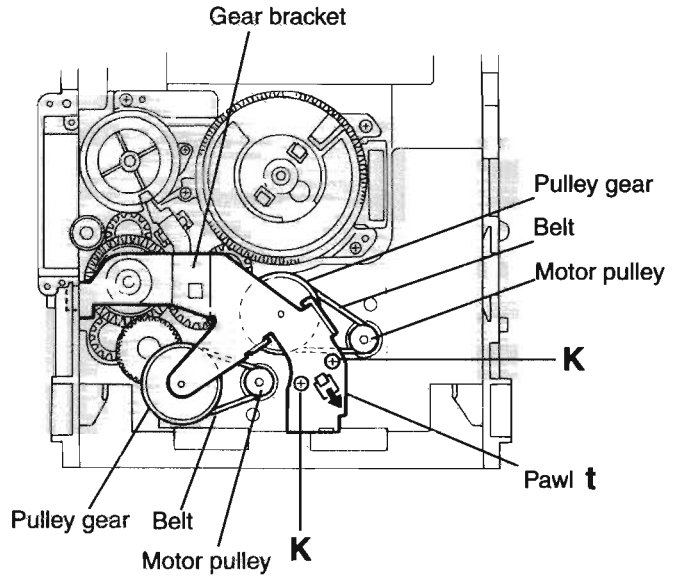

Fig.18
4. While turning the cam gear "q", align the pawl "s" position of the select lever to the notch position(Fig.18) on the cam gear "q".
5. Remove the four screws J retaining the cam unit(cam gear "q" and cams R1/R2 assembly)(See Fig.18).
(See Fig.18~21)**